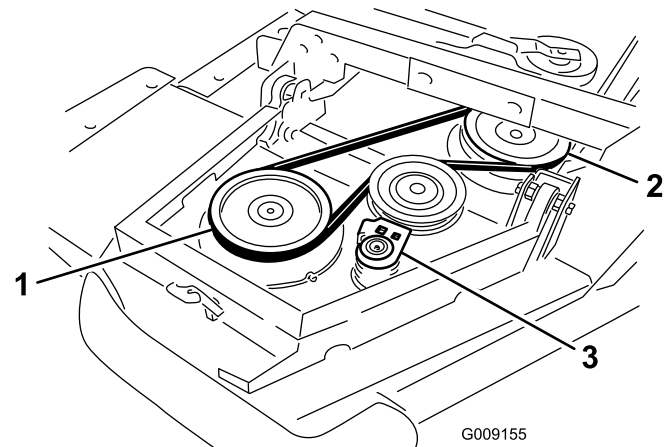

Figure 5
- A. Start the belt around the winglet-spindle pulley and the front-deck-spindle pulley (Figure 5).
- B. Using a ratchet wrench or a similar tool, move the idler pulley away from the pulleys (Figure 5).